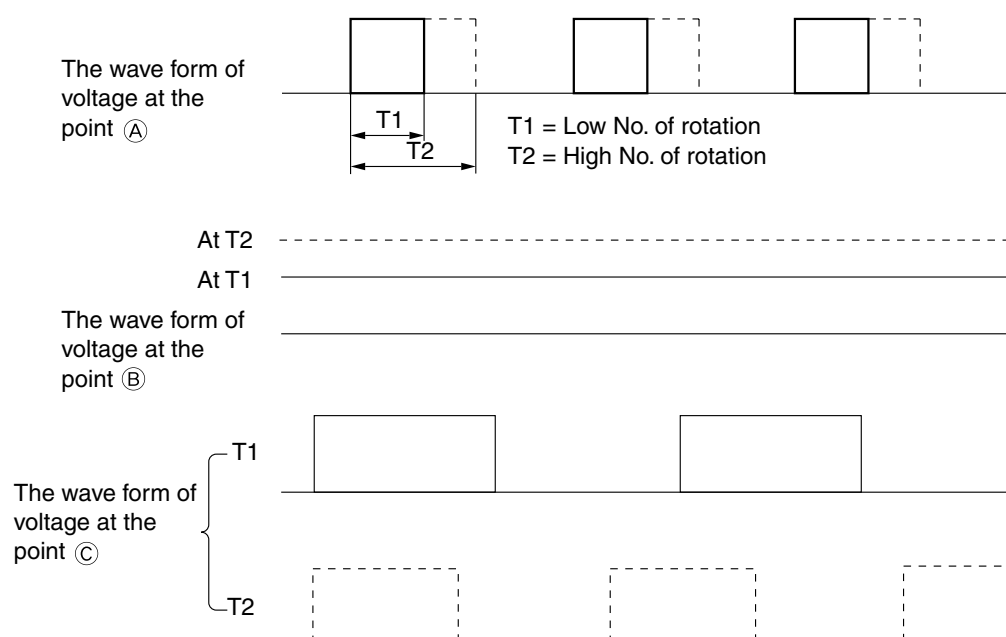

Fig. 6-2
- The 15.7 kHz PWM pulse shown in Fig.6-2 from the micro computer pin ④⑩ is output to point ①. The width of this pulse changes with instruction number of rotations.